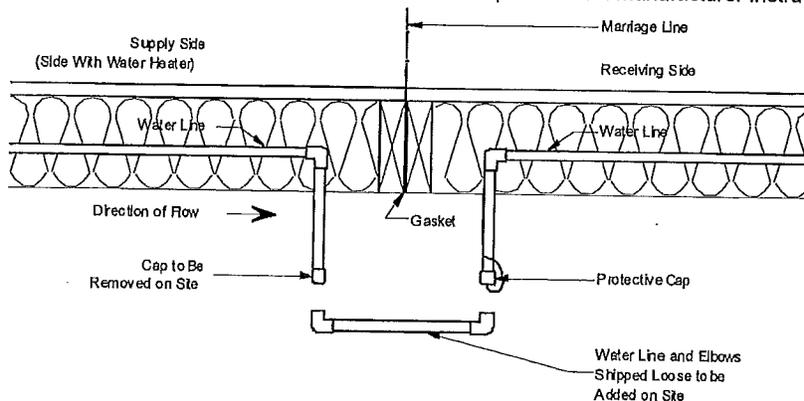

Figure 63. Water line crossover through bottom board
2. **Connect pipes.** Connect threaded water lines using flexible pipe or a rigid connector line (if provided) and connector fittings (do not use lubricants or sealants). Connect non-threaded water lines, pipe, and elbows with cement provided, inserting pipe to full depth of each fitting (Figure 63).